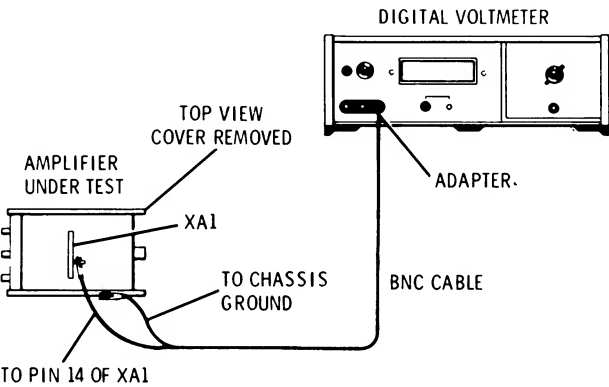

Figure 10. Power Supply Voltage Adjustment Test Setup
1. Connect the test setup in Figure 10. Set the digital voltmeter to measure +20 volts dc.